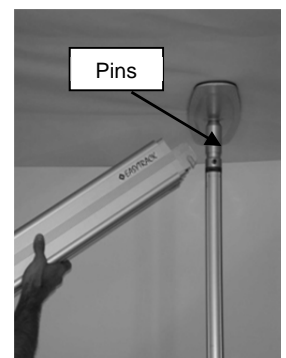

**Figure 34**
17. Remove the level from the post by sliding it up off the bottom portion of the post. Slide the blue locking device down to fit into the bottom part of the post to lock the post in place (see Figure 34).